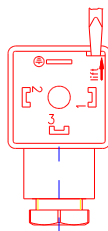

Abb. 7
- By means of a screwdriver or a similar suitable tool remove the insert (pos. 8) from the plug (fig. 7).